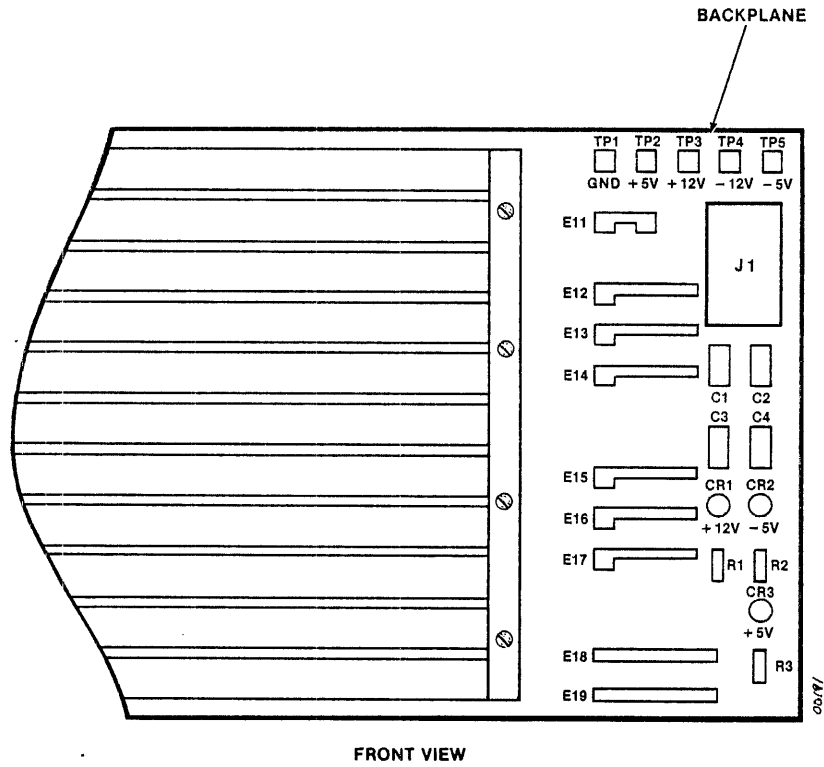

Figure 5-5 Power Supply Voltage Test Points, CPU Module
3. Test points are located in the upper right hand corner of the card cage backplane. Refer to Figure 5-5.